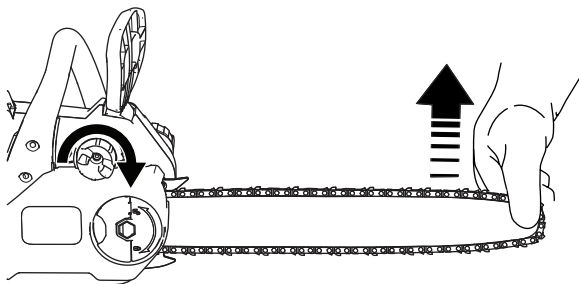

Figure 28
3. Hold up the tip of the guide bar (Figure 28).